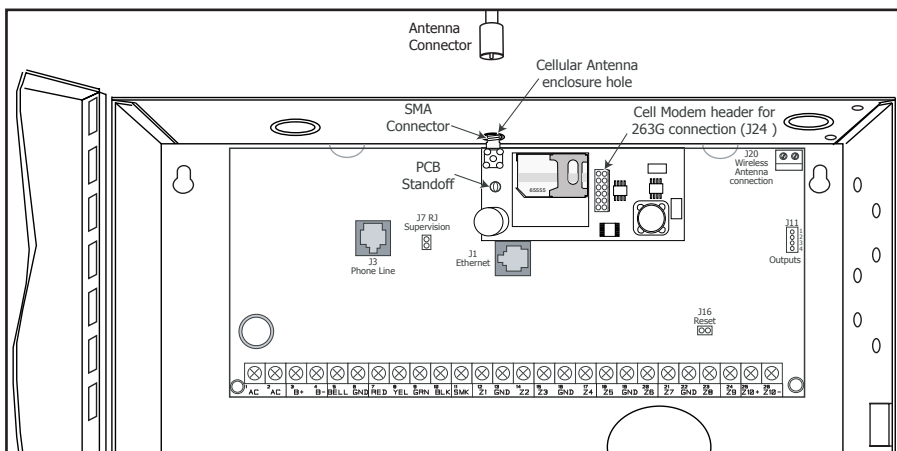

Figure 1: 263G Installation
4. Press the 263G card 12 pin connector onto the Cell Module (J24) connector on the panel while applying even pressure to both sides of the board to fully seat the module. See Figure 1.
Attach the included antenna to the SMA connector. See Accessories for additional antenna options. Refer to Figure 1.